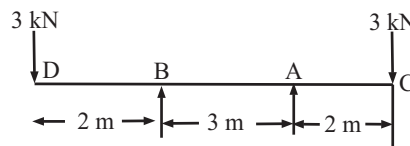

Fig 3
- Q.3.** Draw the SFD and BMD for the overhanging beam as shown in fig 3.